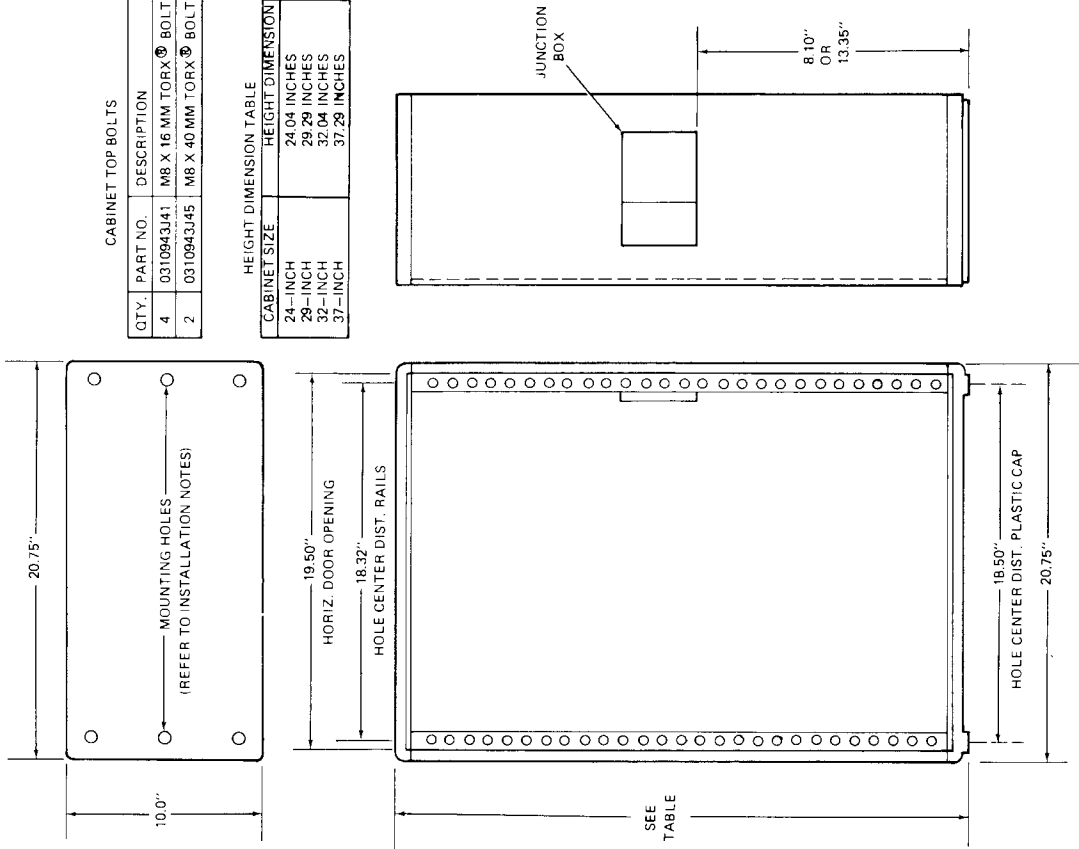

Figure 1. Cabinet Dimensional Details
Refer to Figure 1 for cabinet dimensional details.
- 5.1 Refer to Figure 1 for cabinet dimensional details.
5.4 Refer to Figure 1 for mounting and stacking details.